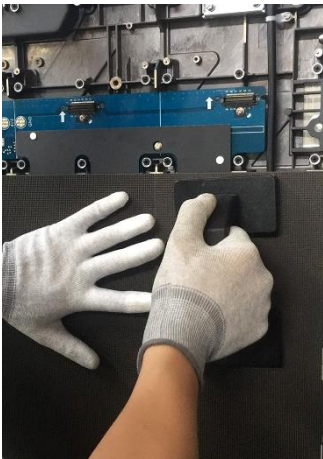

Figure 5.1
- ① Lock the position of corresponding malfunction LED module;
- ② Use the magnetic tool to gently pull out the malfunction LED module. Refer to Figure 5.1;